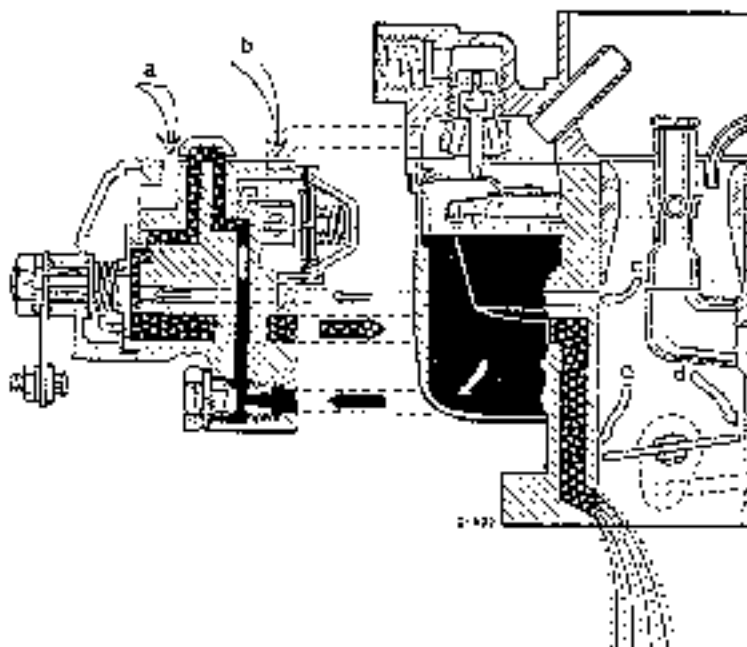

Fig. 07-05
As soon as the engine has warmed up a little, the starter knob can be pushed in halfway. As a result, the starter rotary slide valve is turned toward the right via the starter lever (22); the chamber (22) of the slide valve is now opposite the slot (39) of the starter flange (see Fig. 07-02). Since the chamber (33) is no longer connected with the fuel canal (4) by the bore (2), but only by the fine-graded bore (3), the amount of fuel admitted is greatly decreased and the start mixture is leaned out further. Fig. 07-05 shows the mode of action of the starter mechanism during warming-up.